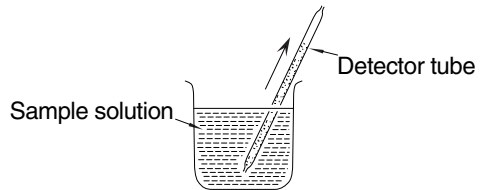

FIG. 2.25 IMMERSION METHOD
- (2) Immersion method (see FIG.2.25) : One end of the detector tube is immersed in the sample solution to draw it up by capillarity action.